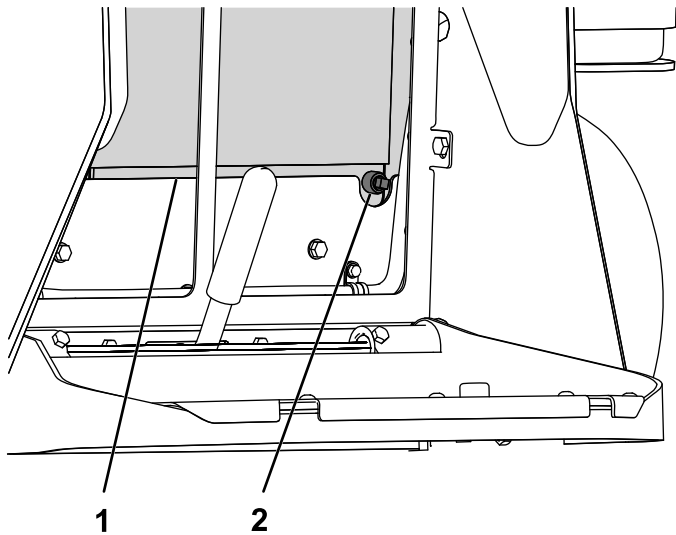

Figure 5
2. Place a large drain pan beneath the drain plug orifice and unthread the plug (Figure 5).